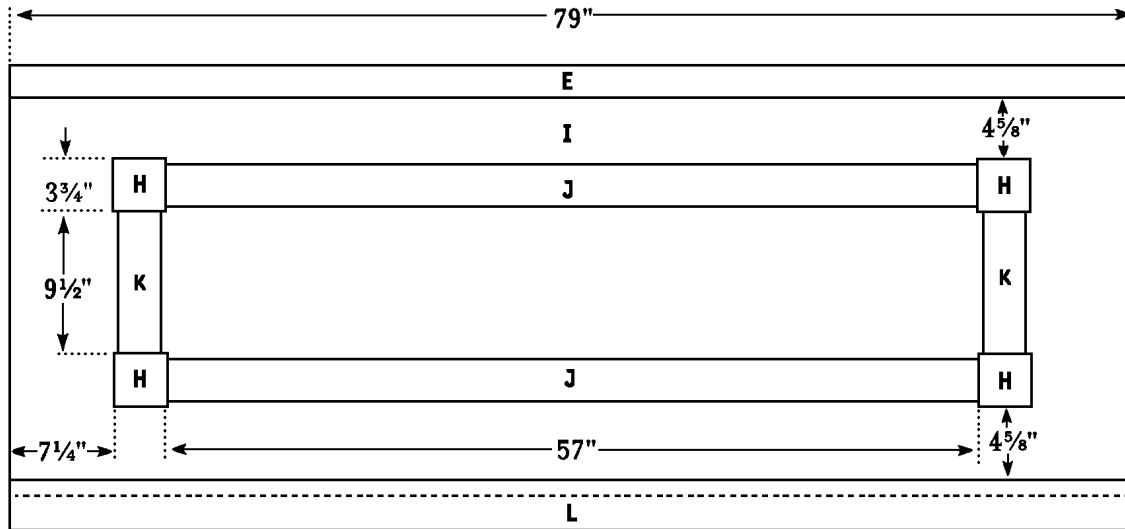

Figure 5
5. Cut two Short Molding (G) from 3-inch-wide beaded molding, each measuring 5 inches.
6. Referring to Figure 5, position the Long and Short Moldings (F and G) and four Decorative Squares (H) on the Headboard (D). Note that the 3-inch-wide moldings must be centered width-wise on the 3-3/4-inch-wide decorative squares. Nail through each corner of the four Decorative Squares (H) using 1-1/4" finishing nails. Nail through the molding using 1" finishing nails. Use two nails on each of the short Moldings (G), and eleven on each of the Long Moldings (F).
1. Cut one Footboard (I) from $\frac{3}{4}$ " plywood measuring 79 x 28 inches.
2. Locate the Top Rail (E) that you set aside earlier, and center the Top Rail (E) over the one 79-inch-edge of the Footboard (I). Apply glue to the meeting surfaces, and nail through the Top Rail (E) into the edge of the Footboard (I) using 2" finishing nails spaced every 6 inches.
3. Cut two Long Footboard Moldings (J) from 3-inch-wide beaded molding, each measuring 57 inches.
4. Cut two Short Footboard Moldings (K) from 3-inch-wide beaded molding, each measuring 9-1/2 inches.
5. Referring to *Figure 5*, position the Long and Short Footboard Moldings (J and K) and four Decorative Squares (H) on the Footboard (I). Note that the 3-inch-wide moldings must be centered width-wise on the decorative squares. Nail through each corner of the four Decorative Squares (H) using 1-1/4" finishing nails. Nail through the molding using 1" finishing nails. Use two nails on each of the Short Footboard Moldings (K), and eleven on each of the Long Footboard Moldings (J).
6. Cut one Base Rail (L) from 1 x 4 pine measuring 79 inches.
7. Apply glue to the meeting surfaces, and attach the Base Rail (L) to the bottom of the Footboard (I). The top of the Base Rail (L) should overlap the bottom of the Footboard (I) 1 inch. Use 1-1/4" finishing nails spaced every five inches.